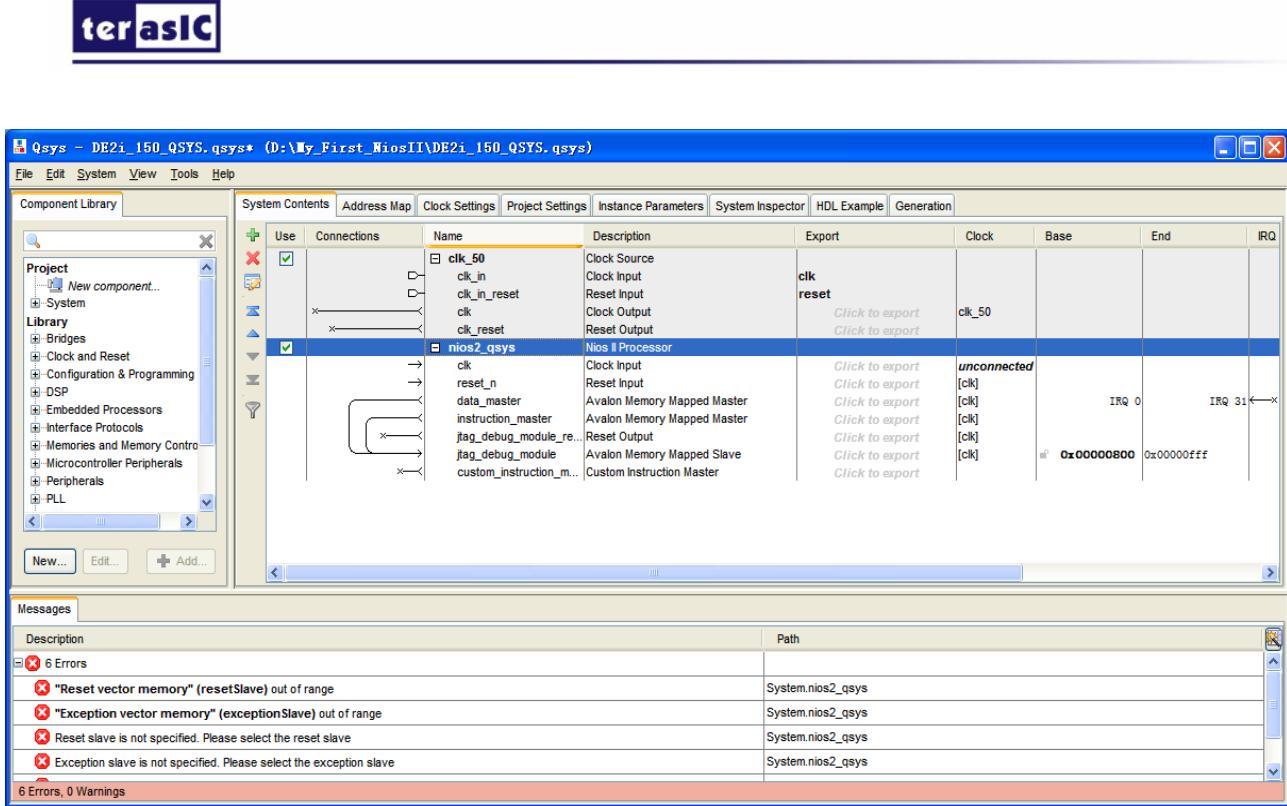

**Figure 1-17 Add Nios II CPU completely**
10. Click **Finish** to return to main window as shown in Figure 1-17.